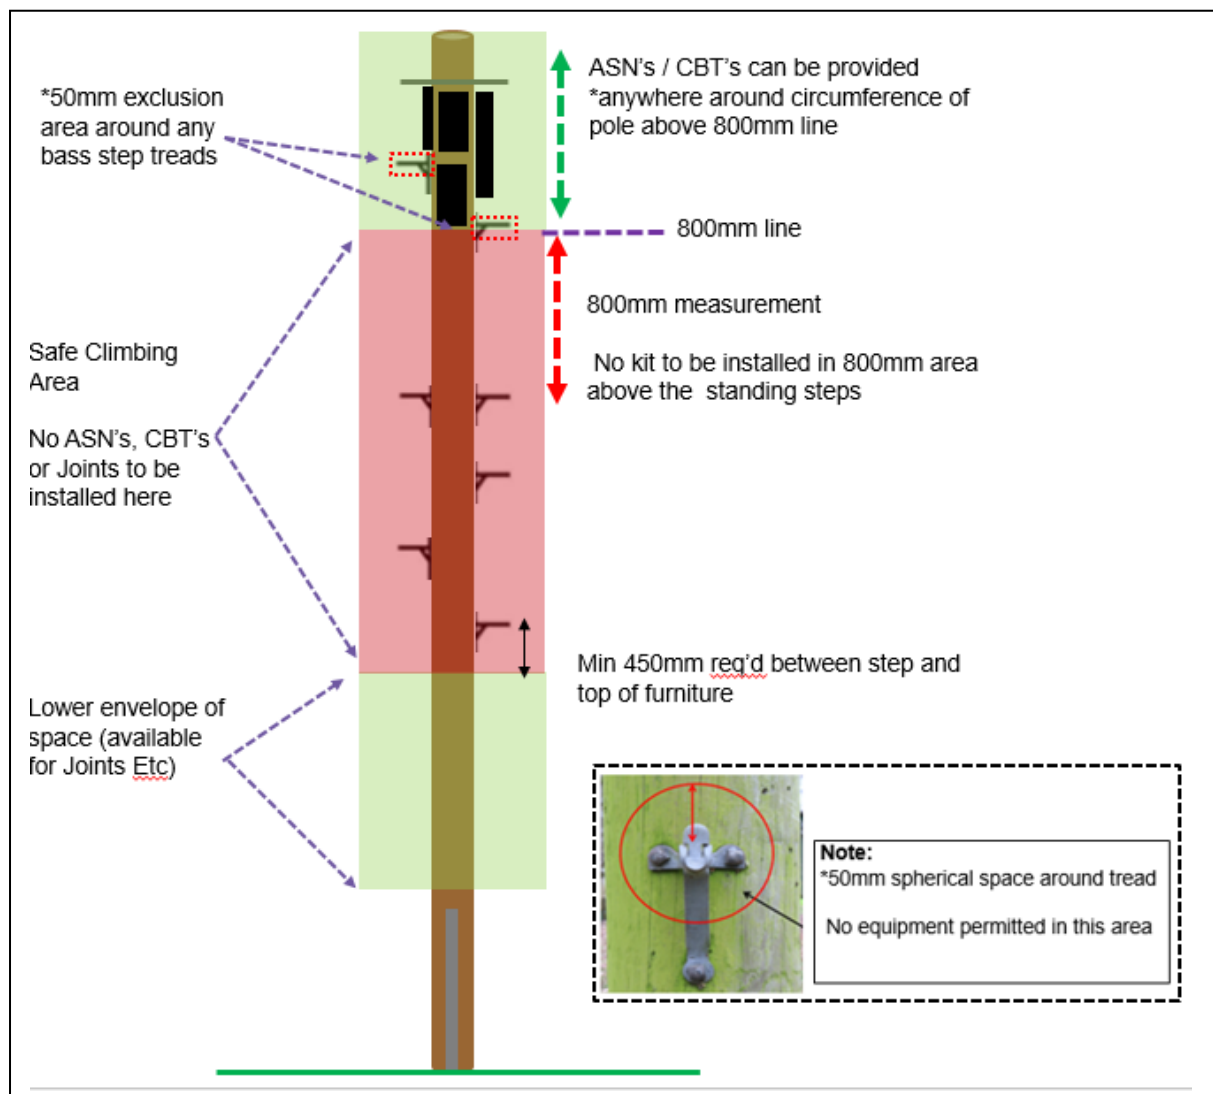

Figure 3 – Permitted envelopes of space on Poles
Where a CP's cable shares the same duct space or run together with Openreach cable, the capping requirement is mandatory. If the existing capping is not large enough to accommodate the extra CP cable, the CP may replace the capping with a larger, Openreach approved capping. Any cables running between the upper and lower envelopes of spaces shown in Figure 3 (i.e. through the climbing area) must be suitably managed and in a manner agreed in writing, in advance with the Openreach SA. This is to avoid risk to climbers.
- New apparatus, shall only be installed on the pole in the areas shown in Figure 3 below. NB Existing equipment installed prior to April 2020, which does not meet the requirements shown in Figure 3, may remain in situ, providing that in BT's reasonable opinion, it does not prevent a handhold of the Bass Steps (see 50mm rule in fig 3)
- Where the Lower envelope is being used (for Joints etc), a vertical clearance of 450mm must be provided between the Lowermost Climbing Step and the uppermost part of the equipment (Figure 3 refers)